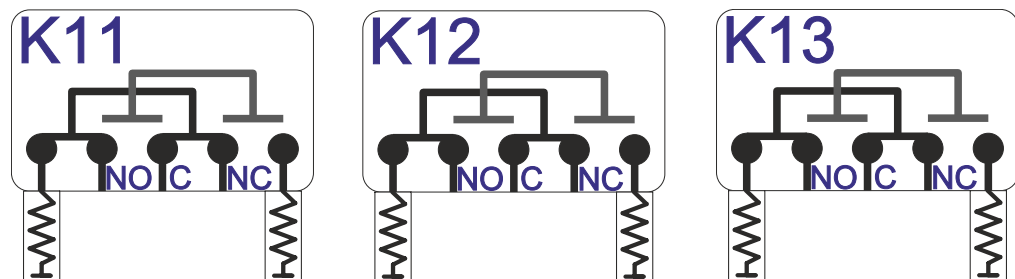

Figure 4-81: Block diagram of RF switch module R&S OSP-B121E
- **External** termination of the NO and NC ports, see Figure 4-81
The block diagram of the module R&S OSP-B121H is the same as in Figure 4-81.
The block diagram of the module R&S OSP-B121U is the same as in Figure 4-81. But in the module versions with less than 3 SPDT relays, the relays with the highest Kxx numbers in the range from K11 to K13 are not available.